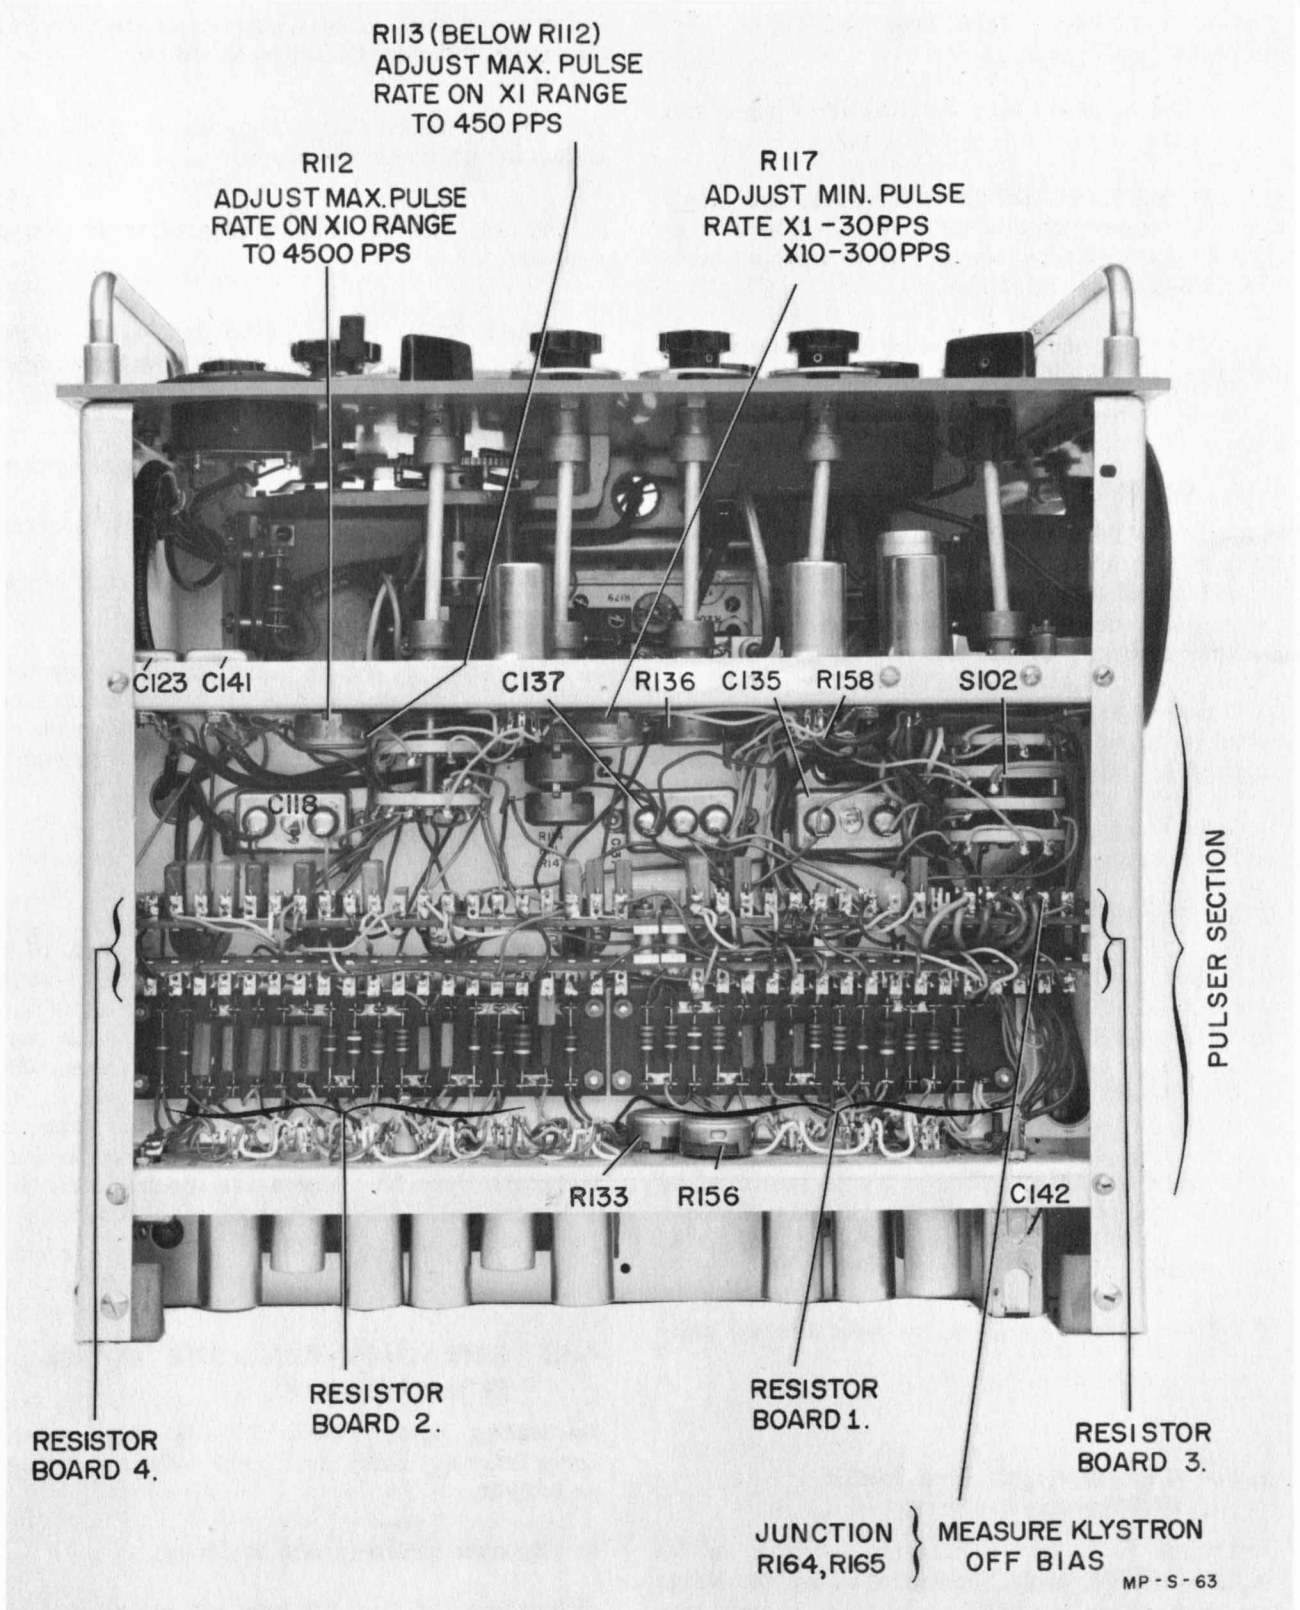

Figure 4-13. Top View Showing Pulser Section
8) Adjust R112, Figure 4-13, so that the generated pulse rate is 4000 pps. When the repetition rate of the pulses is 4000 pps, each pulse will be superimposed upon each cycle of the sine wave. Adjust R112 until the pattern is stationary and all slope is removed (top of pulses in a straight, horizontal line).
4) Adjust R133, Figure 4-6B or Figure 4-13, to give a delay of 300 microseconds as measured on the calibrated oscilloscope screen.